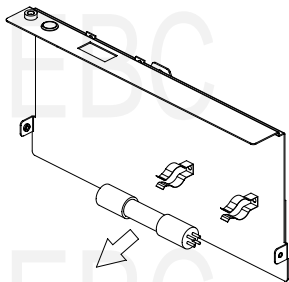

Figure 4.12 Schematic diagram of photocatalyst component maintenance step 4
- 4) Slowly push photocatalyst components out of the buckle. As shown in Figure 4.12;